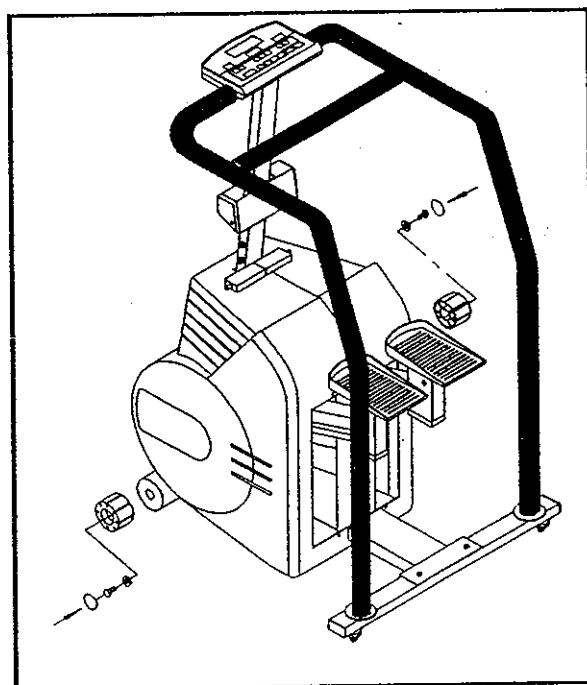

Fig. 16
6. Replace the transport wheels, tighten with screws and washers, then cover with labels (see Fig. 16).